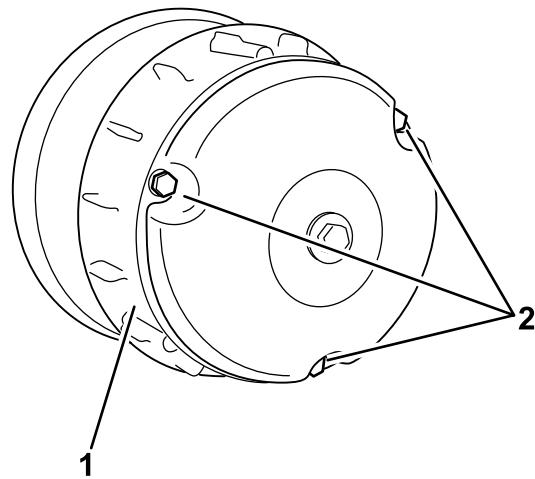

Figure 61
4. Install the clutch cover and secure it with the 3 bolts (Figure 61) that you removed in 2.
2. Remove the 3 bolts securing the cover to the clutch, and remove the cover (Figure 61).